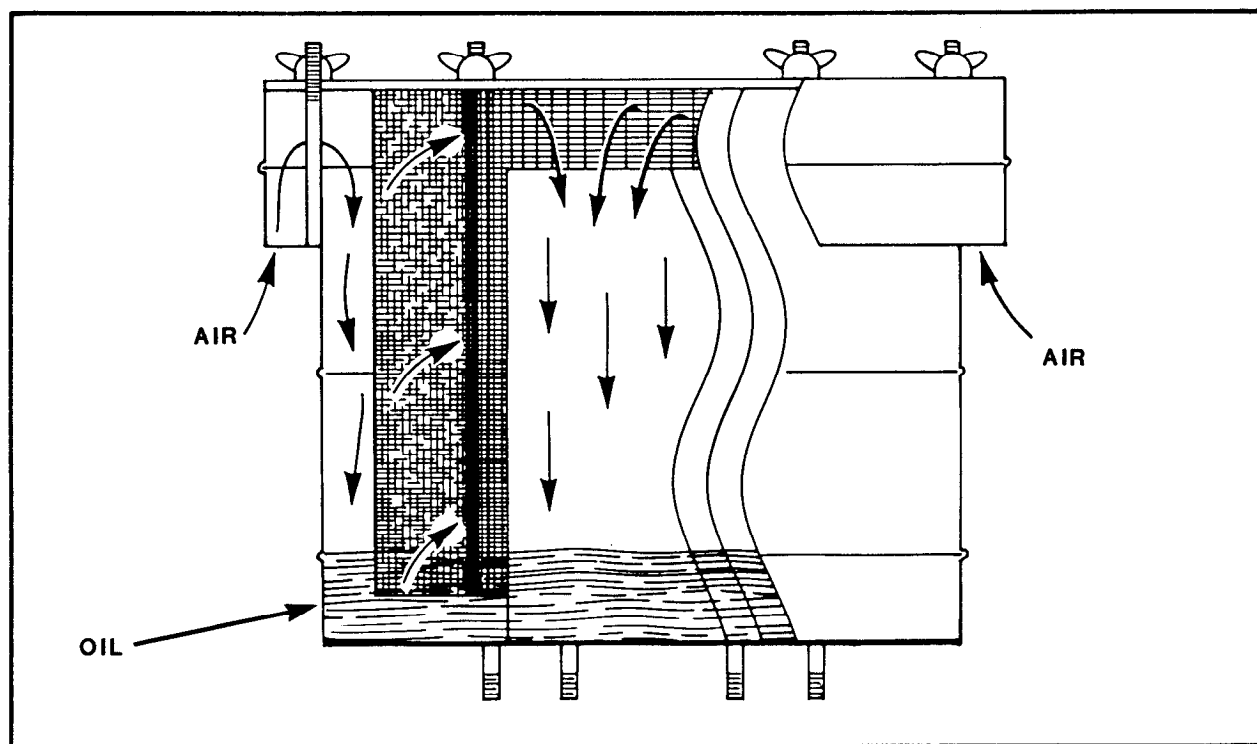

FIGURE 4-1. Oil-Bath Intake Filter
1.2 Oil-Wetted Type Filter. Wet filters have filter elements that are coated with a film of oil. The oil film catches airborne particulates before they reach the actual filter element media. Wetted type filters are of two designs, oil-wetted and oil-bath filters. In an oil-wetted filter, a coating of oil is deposited on the filter element, which is usually made of layers of wire mesh. The oil coating is intended to adhere to the element for a fairly long service period. The airborne particulates are impinged or trapped on the filter element which has been covered with a film of oil. In an oil-bath filter (figure 4-1), the same viscous impingement principle is employed. However, the airflow is directed through the oil sump, carrying oil with it to the filter element where the oil collects and washes the impinged particles down to the oil sump, forming sludge. The self-washing aspect of the oil-bath filter extends the time between maintenance routines.